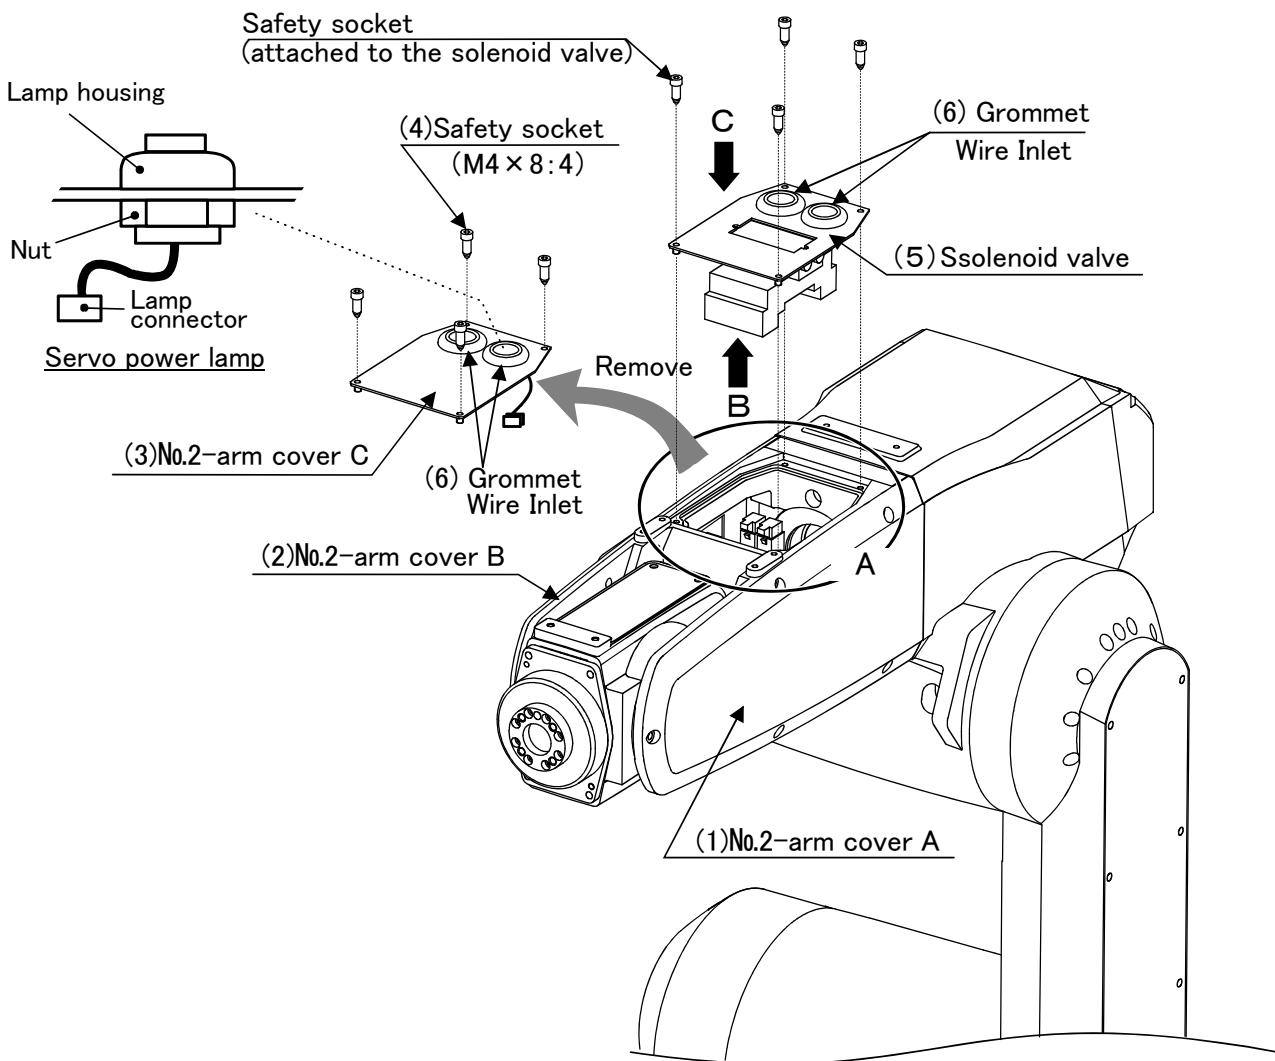
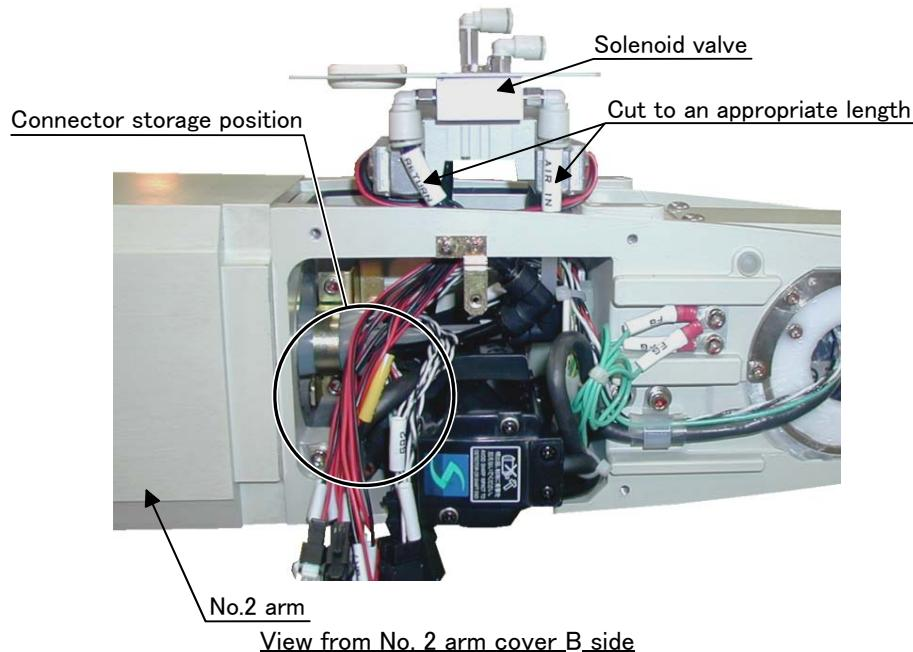

Fig.1-1 : Solenoid valve installation procedures
Fig.1-2 : Solenoid valve installation diagram details 1
Fig. 1-1 and Fig. 1-2 shows the solenoid valve installation procedures and the solenoid valve connector connection procedures. The installation procedures are as follow. This work must be carried out with the controller power turned OFF.
- 2) If you are not using the spare line (ADD: stored in a coil) in section A shown in Fig. 1-1, remove it. The spare line is connected to a connector inside section A.
- 9) Connect the connectors of "GR1" and "GR2" stored in section A to the connectors of "GR1" and "GR2" coming out of the solenoid valves. Store the connectors near the location marked with O shown in Fig. 1-2.